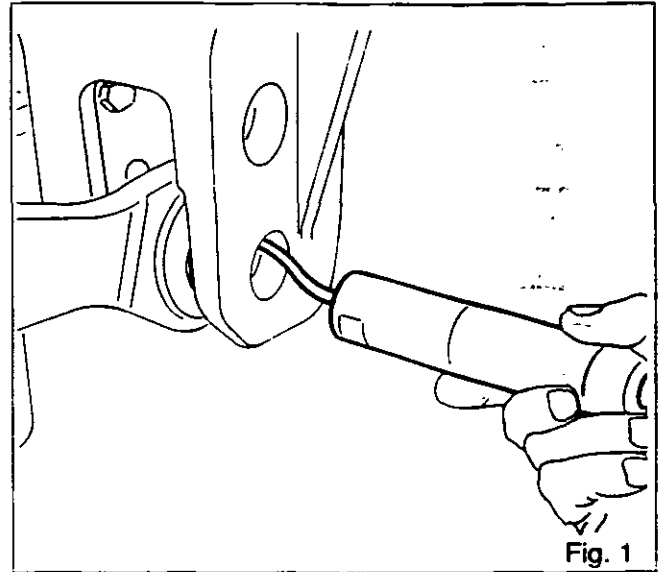

Fig. 1
1. Immobilize the tractor. Apply the handbrake. Fit chocks between the frame and the front axle (see 3 A01 Fig 1).
8. On tractors fitted with **an automatic hitch**, the sensor is removed outwards (Fig. 1).